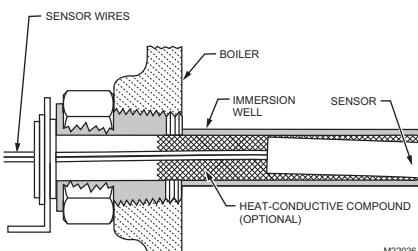

Fig. 5. Replacement sensor installation.
2. Carefully align replacement sensor with hole in circuit board and guide through Aquastat case and into well. Refer to Fig. 5.
3. Make sure sensor is fully seated to bottom of well (see Fig. 5). Use a small pencil to measure depth of sensor in well, if necessary.
3. Insert the sensor into the well as shown in Fig. 5. (If desired, distribute the heat-conductive compound in the tube prior to sensor insertion, as described in New Installation.)
4. Make sure sensor is fully seated to bottom of well (Fig. 5). Use a small pencil to measure depth of sensor in well, if necessary.